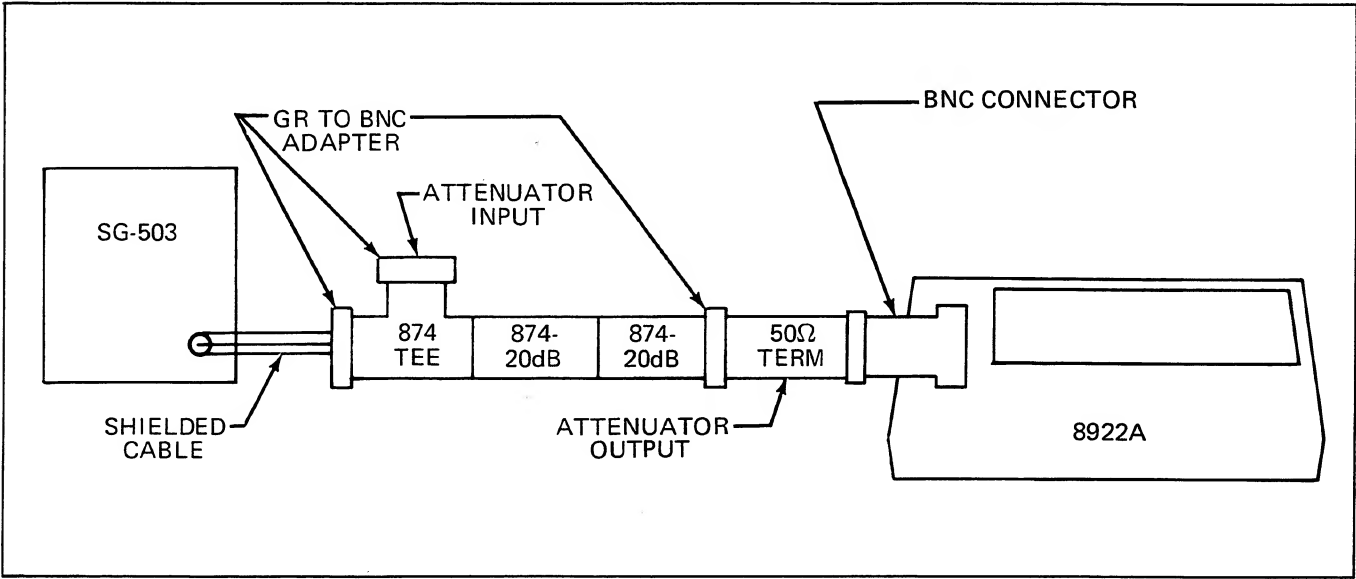

Figure 4-3. AC Low Level Check
4-25. This procedure will verify that the UUT's low level AC performance meets the specifications of Section 1. Set up the test equipment as shown in Figure 4-3 and complete the AC Low Level Calibration procedure, but replace steps 2-d and 2-e with the following:
- b. Set up the test equipment as shown in Figure 4-3.